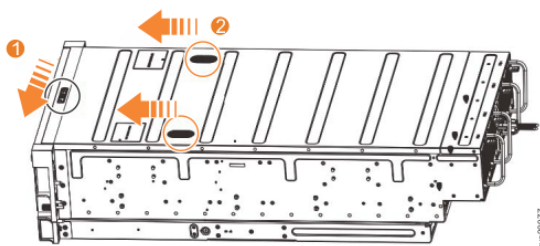

Figure 96. Releasing the 5U expansion enclosure cover
2. Slide the release latch (**1**) in the direction that is shown in Figure 96 on page 160.
3. Slide the cover toward the front of the expansion enclosure (2), as shown in Figure 96 on page 160.